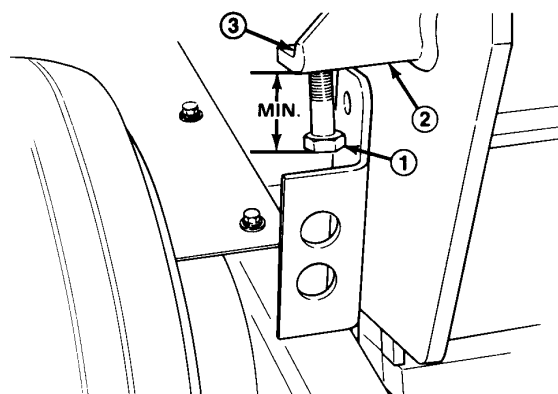

Figure 11
2. Loosen the jam nut on top of the adjusting bracket (Fig. 11).
3. Thread the adjusting screw into the bracket to increase coring depth. Thread it out to decrease depth (Fig.11).
5. Best recommended coring depth is achieved when the distance from the end of the screw head to the bracket is $1\frac{1}{16}$ " (Fig. 11).